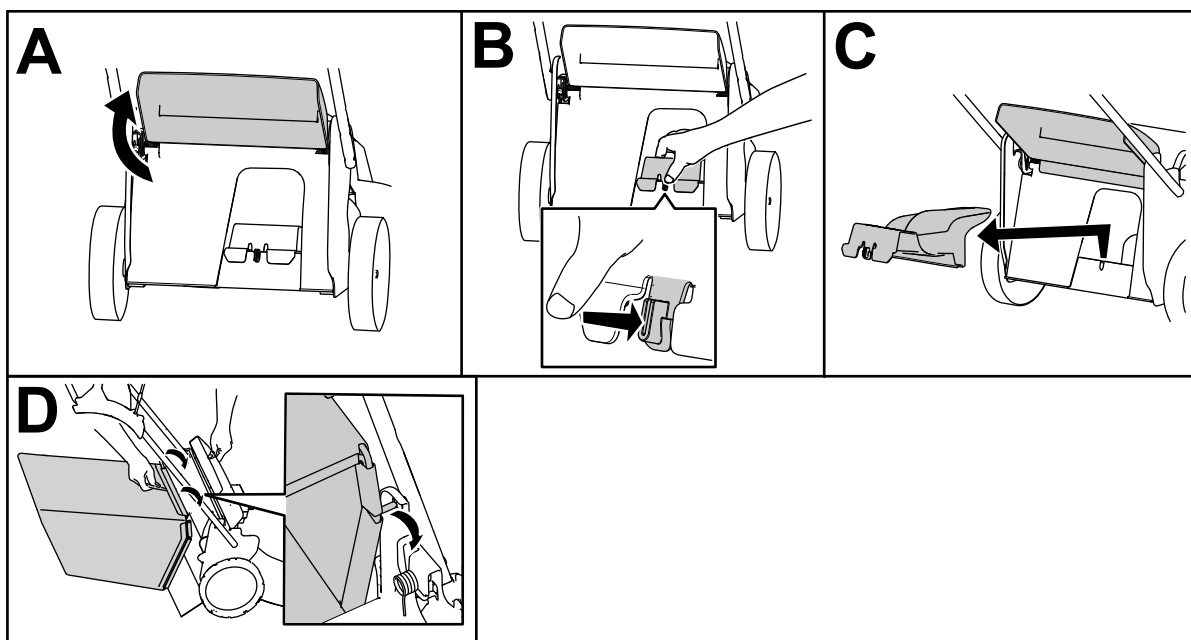

Figure 16
3. Raise and hold up the rear deflector (A of Figure 16).
4. Remove the rear-discharge plug by pushing in the latch with your thumb and pulling the plug out from the machine (B and C of Figure 16).
5. Install the bag-rod ends into the notches at the base of the handle, and rock the bag back and forth to ensure that the bag-rod ends are seated at the bottom of both notches (D of Figure 16).
3. Remove the bag rod on the grass bag from the notches at the base of the handle (A of Figure 16).
4. Install the discharge plug (B of Figure 16).
5. Lower the rear deflector (C of Figure 16).